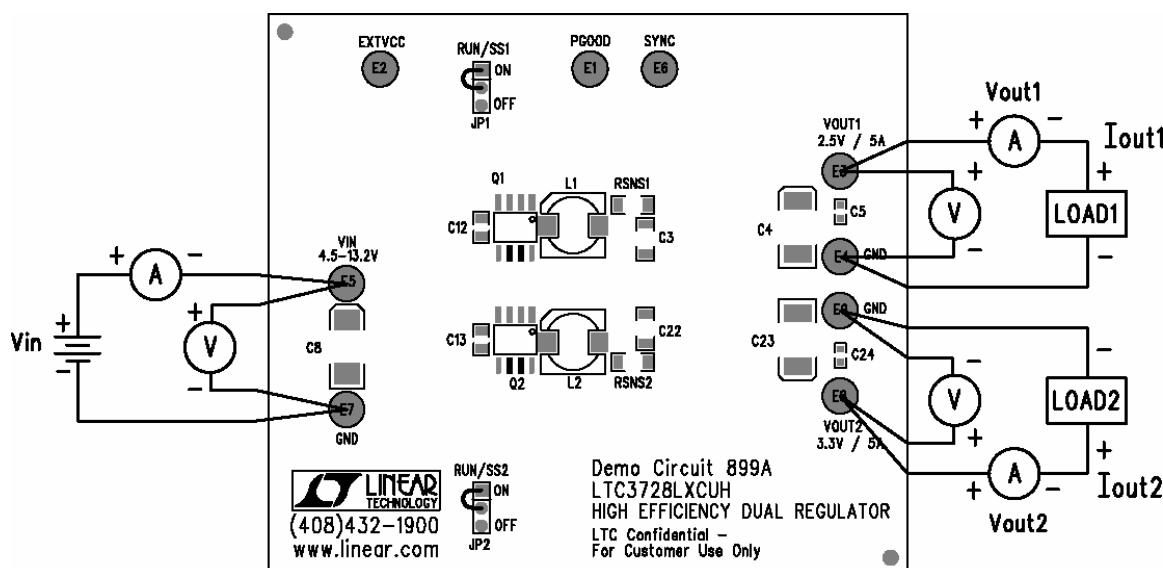

Figure 1. Proper Measurement Equipment Setup
Demonstration circuit 899 is easy to set up to evaluate the performance of the LTC3728LXCUH. Refer to Figure 1 for proper measurement equipment setup and follow the procedure below:
- With power off, connect the input power supply to VIN and GND. Connect the load between VOUT1, VOUT2 and GND. Preset the load current at 0A (minimum). Refer to Figure 1 for correct test set up. The RUN/SS1 and RUN/SS2 jumpers should be at "on" position.